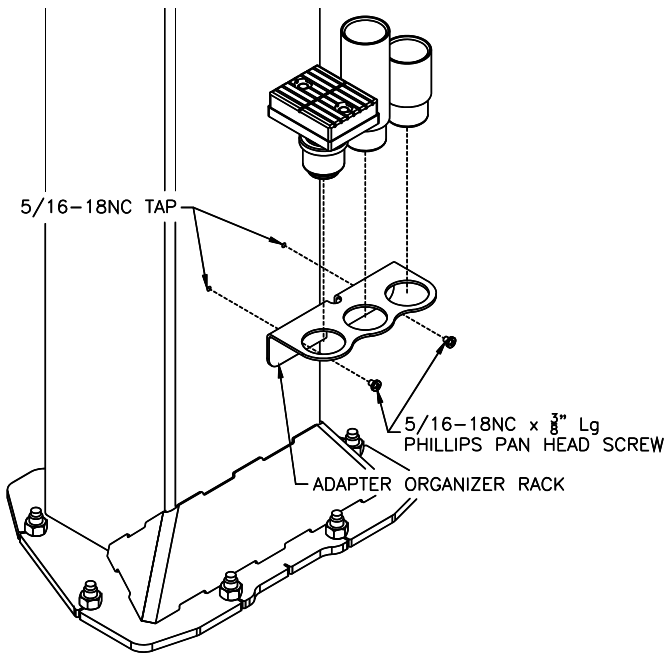

Fig 20-Adapter Rack Installation
- 44) Locate the two pre-drilled holes on the back of each column 19" up from the top of the base plate and tap 5/16-18. Center the adapter rack and attach with 5/16-18NC Phillips Pan Head Screws supplied, **Fig. 20**.